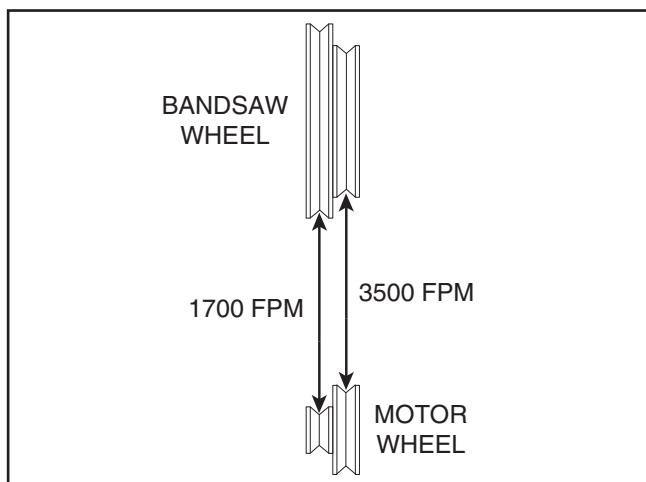

Figure 79. V-belt speeds.
3. Refer to **Figure 79** to locate the correct V-belt position for the desired blade speed.